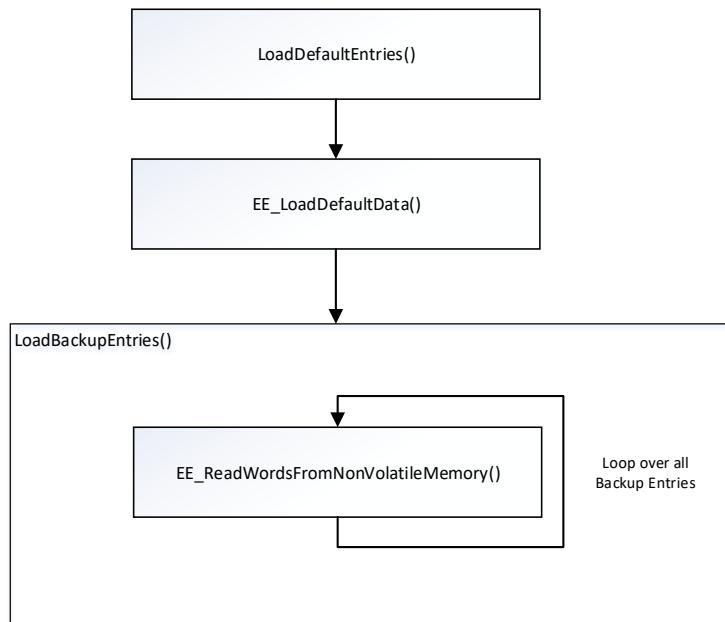

Figure 19: Restore the default backup parameter values
- 0x1011.1 Restore default values (if 0x64616F6C is written the default backup parameters are read, see Figure 19).